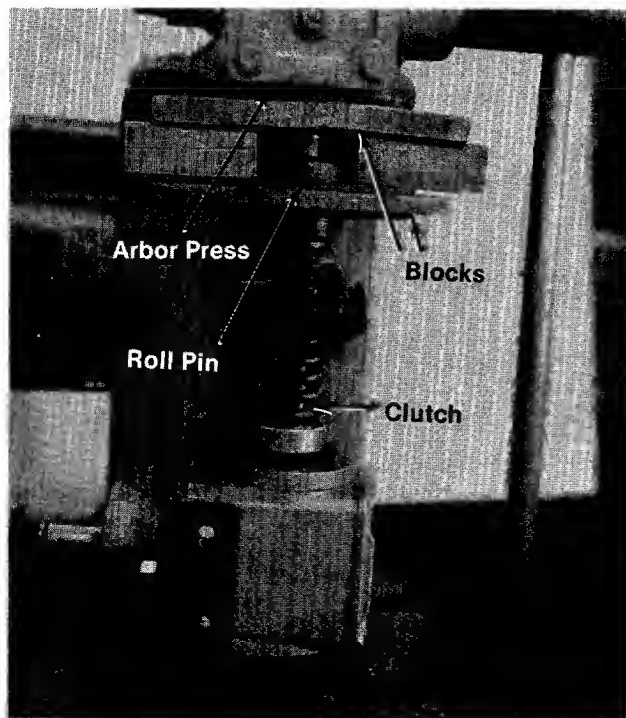

Figure 35
The clutch is assembled under 400 pounds of pressure. Do not disassemble the clutch unless you have a suitable arbor press available. (See figure 35.)
2. Place blocks on the clutch so the pressure is pushing against the stationary plate. (See figures 35 and 36.)